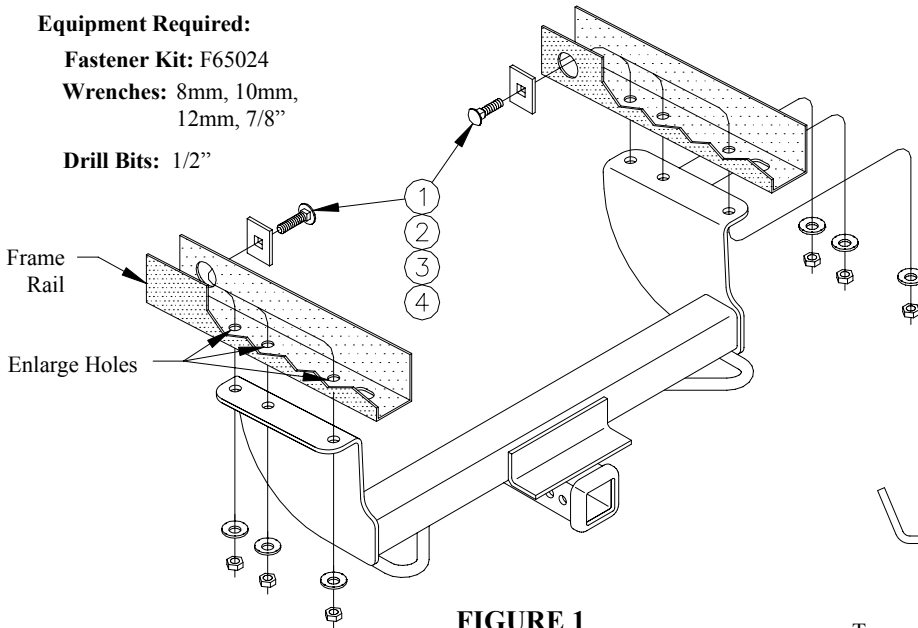

FIGURE 1
①	Qty. (6)	Carriage Bolt, 1/2"-13 x 1-3/4"	④	Qty. (6)	Hex Nut, 1/2"
②	Qty. (6)	Spacer, 1" x 2" x 1/4"	⑤	Qty. (2)	Pull Wire, 1/2"
③	Qty. (6)	Conical Washer, 1/2"
2. Enlarge six (6) existing holes in frame rails as shown in Figure 1.